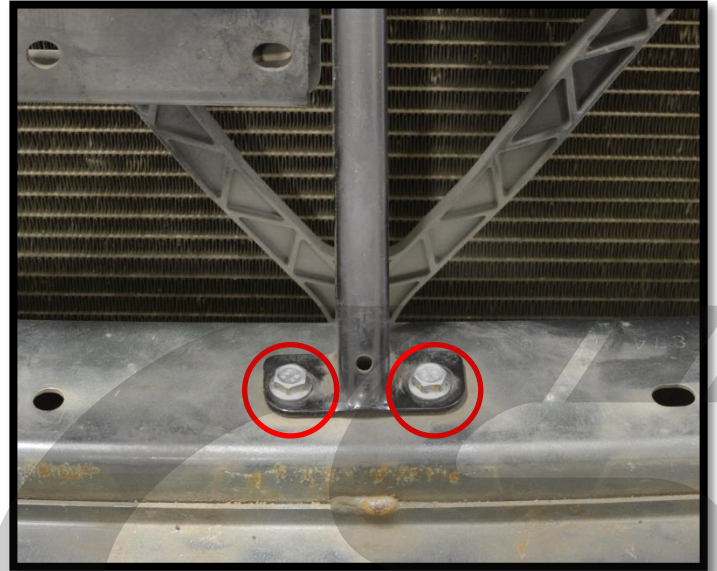

Figure 5d
- c) Remove the two 10mm bolts that attach the OE crashbar to the hood latch support. Shown circled in red in Figure 5d. Support the OE crashbar as you remove these bolts to ensure it does not fall and injure you.